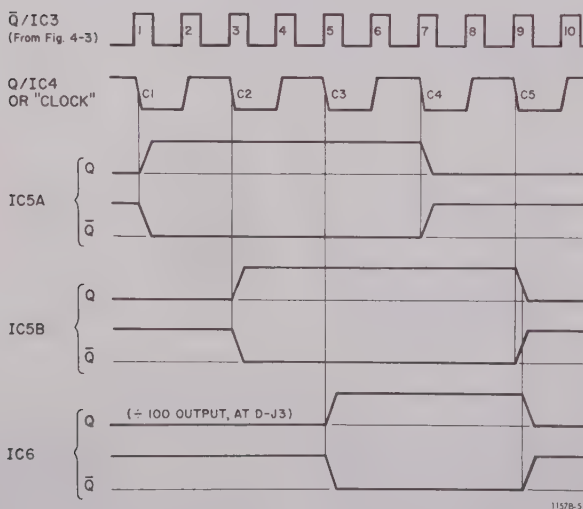

Figure 4-4. By-10 divider timing diagram.
4.3.6 By-10 Divider — D (Figures 4-4, 6-11).
The binary IC4 has the property that each + pulse applied simultaneously to inputs J and K reverses the state of its internal flip-flop. Its output Q/IC4 is a square wave at half the frequency of the $\div 10$ output (at D-J2). Difference amplifier D-Q3/D-Q4 acts as a "clock" driver for the following divider. (See Figure 4-4, first 2 waveforms.)
The timing sequence is shown in Figure 4-4. Start with a time when all 3 flip-flops are in the 0 state. The clock drive, from D-Q3 collector, is applied to all 3 flip-flops at their C terminals. (Abbrev. used: IC4, IC5 . . . for D-IC4, D-IC5 . . .)